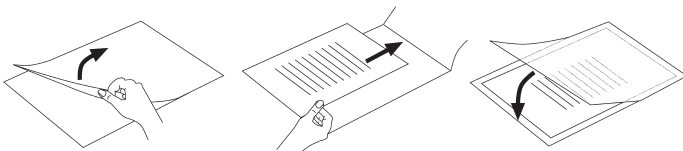

Fig. 2
- ▶ Ensure that you use only one pouch for laminating. First open it up, as shown in Fig. 2.
- ▶ Make certain that you use only one pouch for laminating. First open it up, as shown in Fig. 2 (see p. 50).